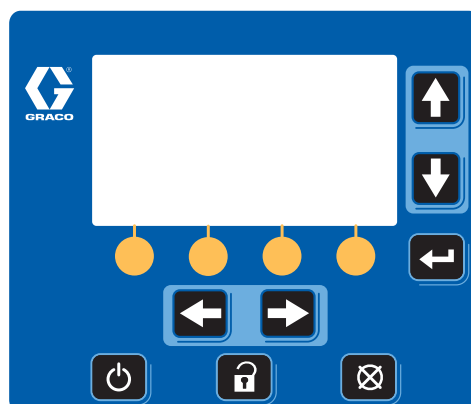

FIG. 8: Display Module
- Display module (G). Mounted on Ram A only. Provides Run Mode status screens, Setup screens, and control keys. See FIG. 8, page 14.